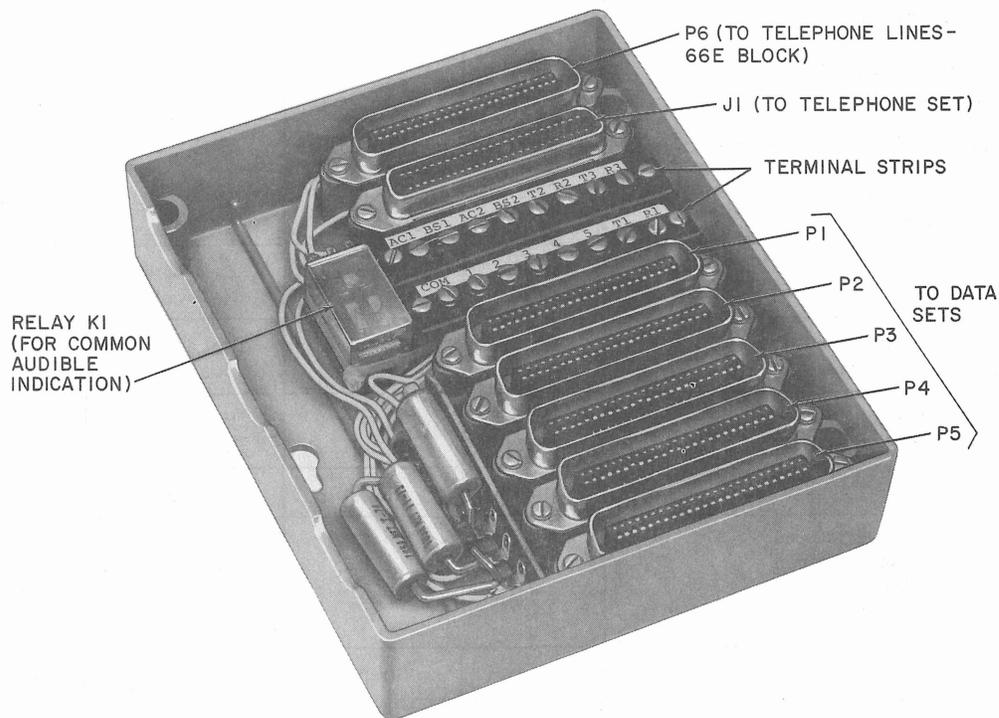
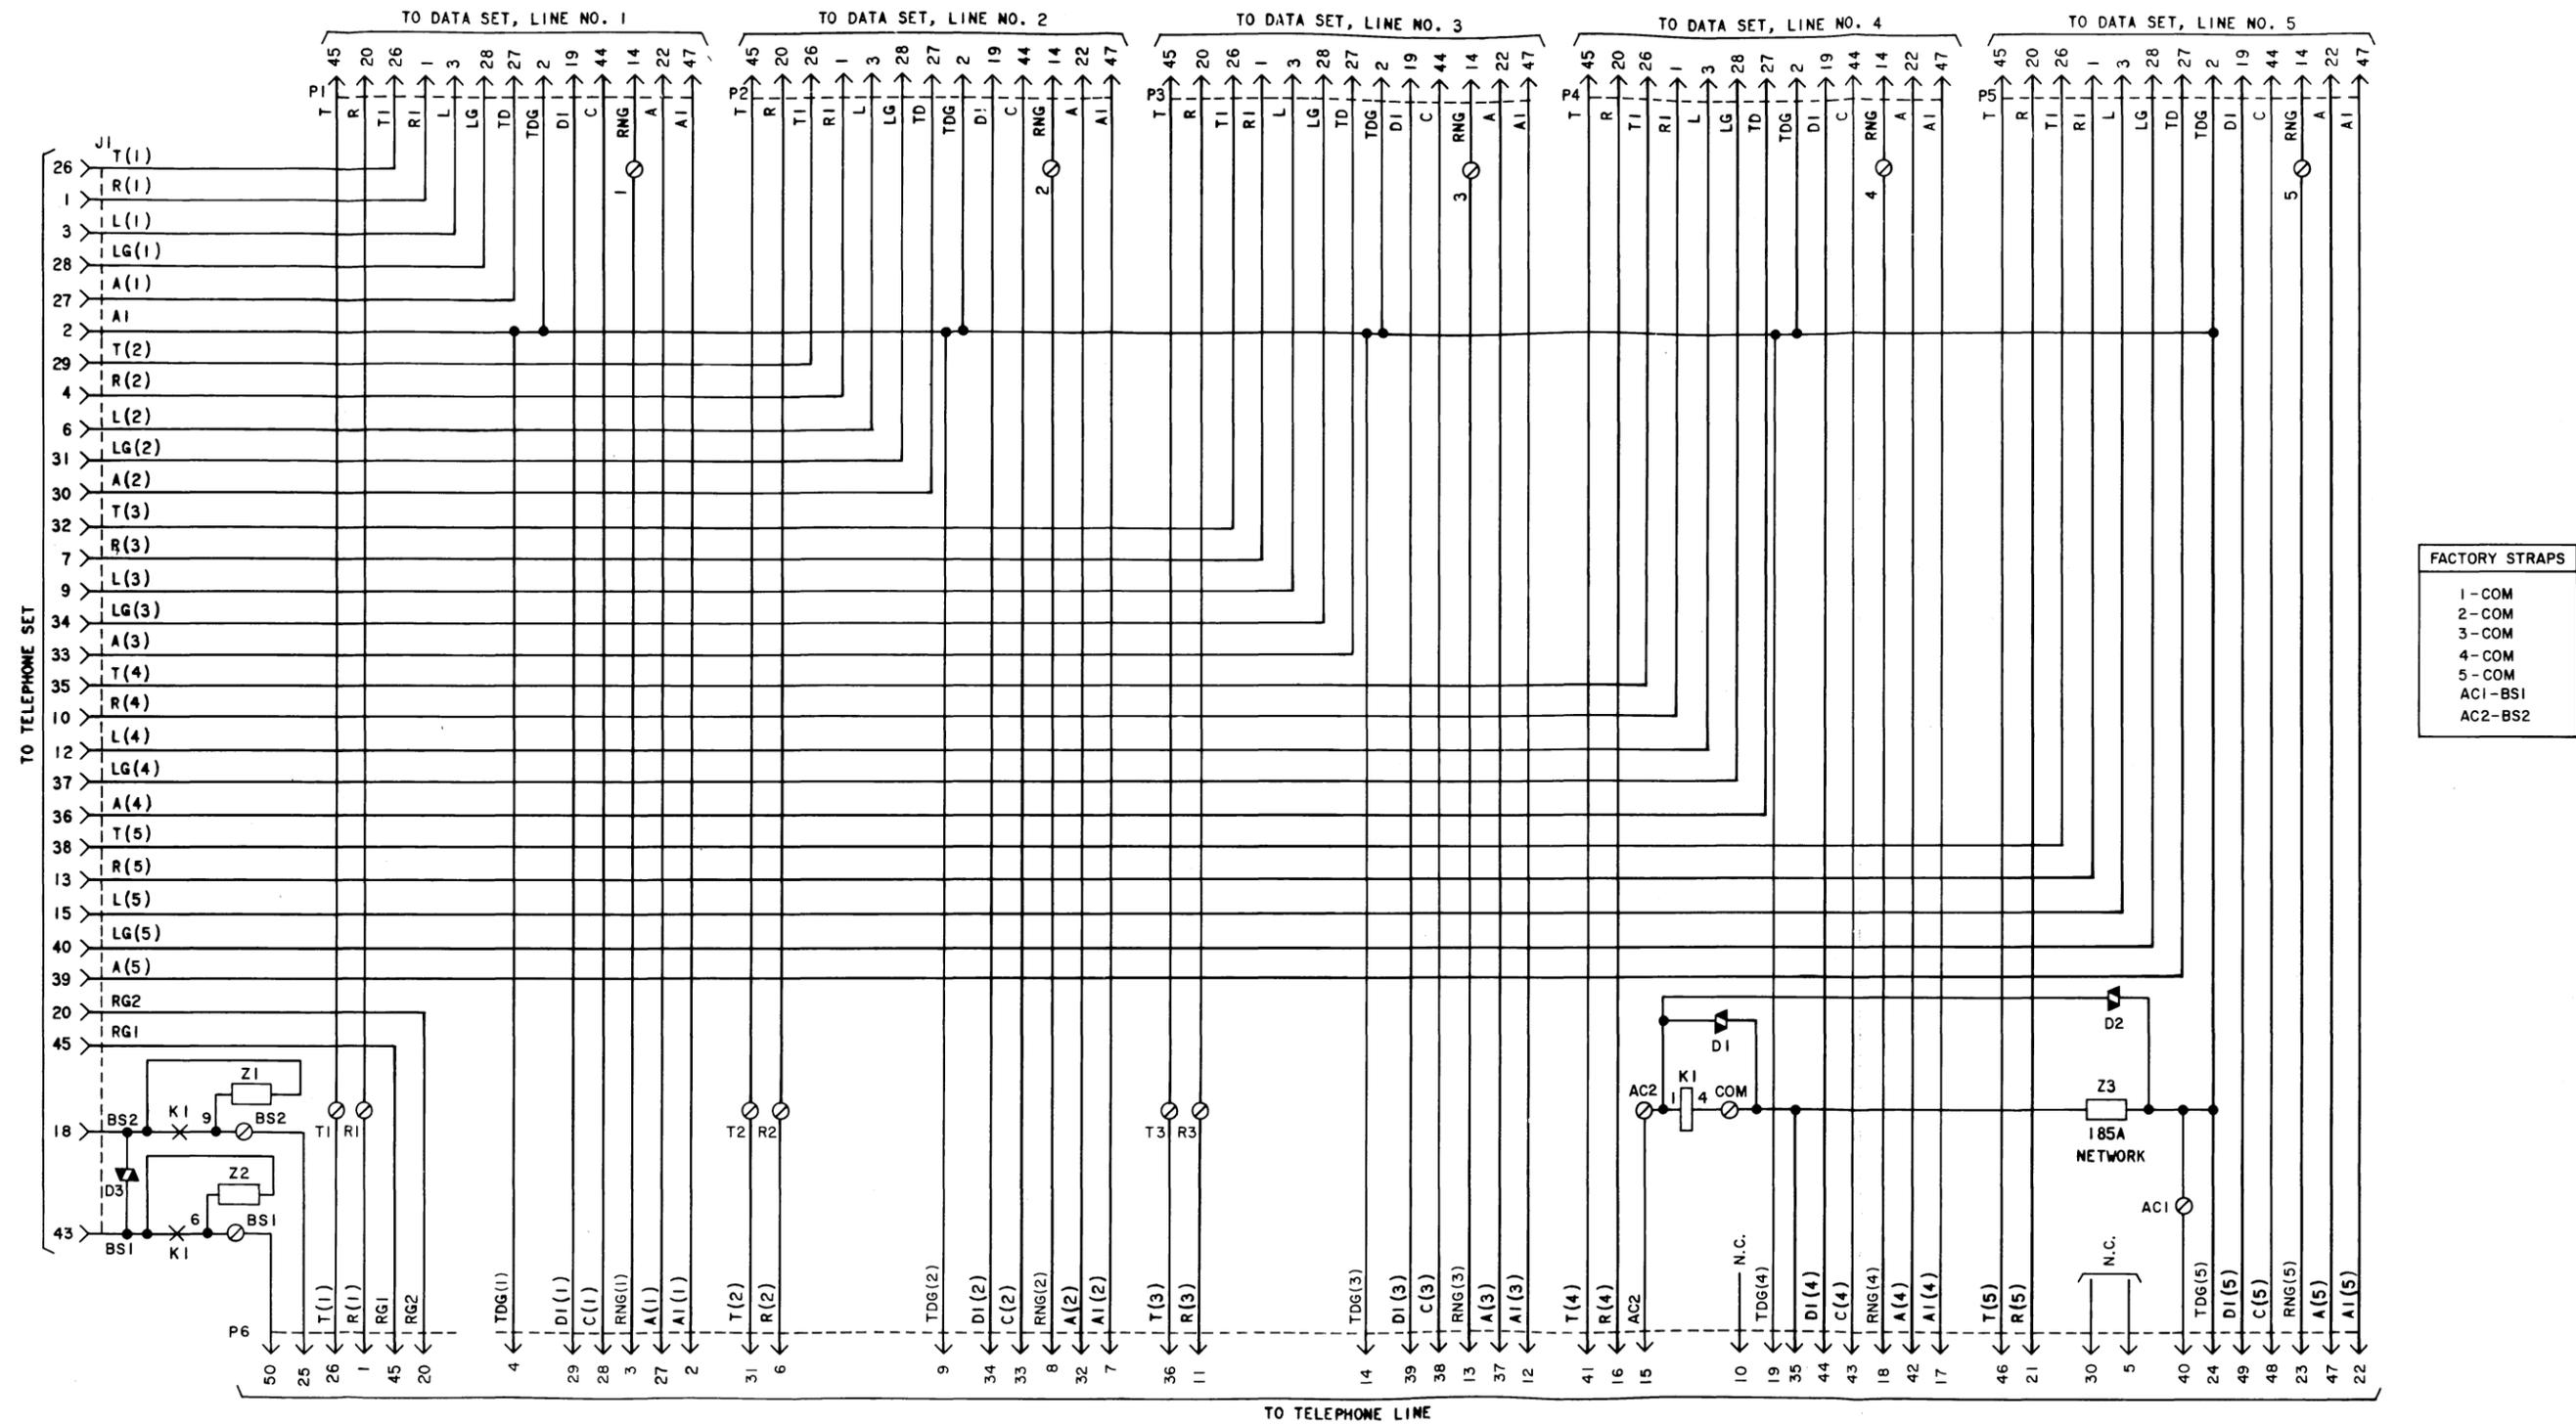

Fig. 13—KS-21253, L3 Line Interface Adapter With Cover Removed
Fig. 14—Wiring Diagram—KS-21253, L3 Adapter
**4.04** A multiple data set *without ACUs* is shown in Fig. 5. This arrangement requires the use of a KS-21253, L3 line interface adapter (Fig. 13) which allows up to five data sets to be associated with one telephone set. A wiring diagram of the KS-21253, L3 line interface adapter is given in Fig. 14. The data set(s) are connected to plugs P1 through P5 of the KS-21253, L3 adapter via M13F cord(s) and the telephone set cord is connected via connector J1. Tip and ring leads of the data set(s) are fed via the B25A cable between plug P6 of the KS-21253, L3 adapter and the 66E-type connecting block where they are cross-connected to the telephone line(s) to the switched network.